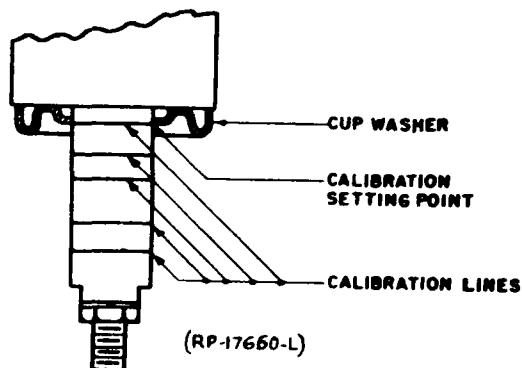

FIG. 10 KS-15602 RELAY (PAR. 11.3)
11.32 To adjust the relay loosen the locknut (see Figure 10) and screw the plunger core until the line corresponding to the required trip current rating is flush with the inside edge of the cup washer. Tighten the locknut to lock the plunger in position.